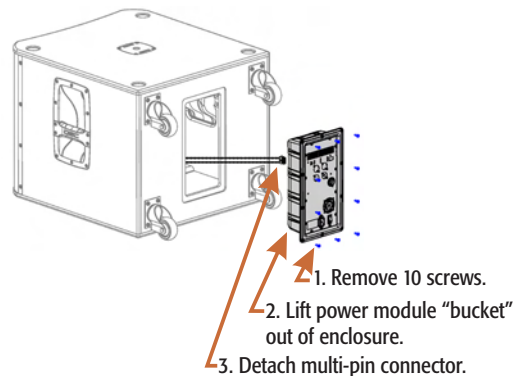

Figure 1. Removal of the KW181 module.
1. Remove the 10 screws that fasten the power module to the enclosure (see Figure 1).